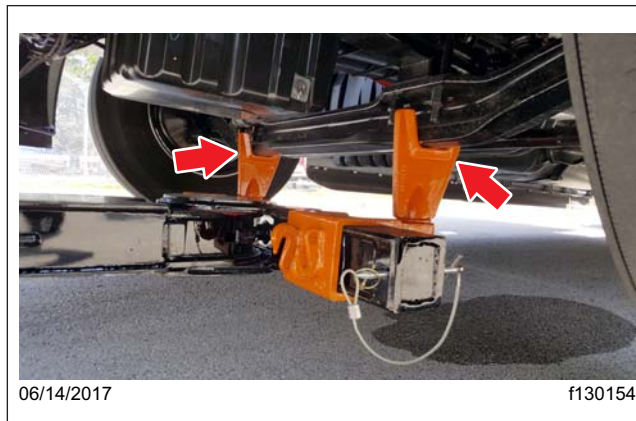
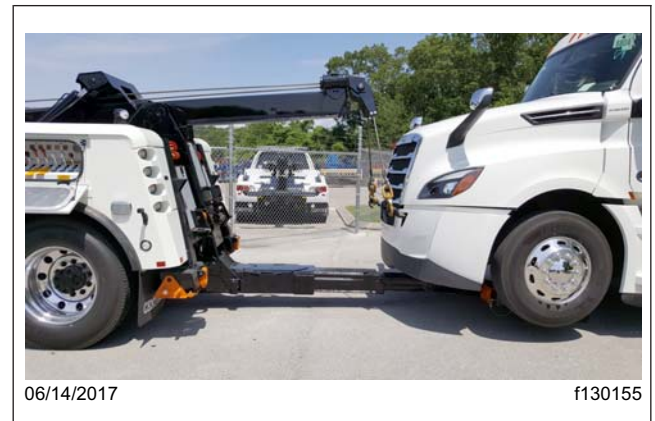

Fig. 9, Positioning the Stinger with Lift Adaptors Under the Axle
Fig. 10, Stinger with Lift Adaptors Under the Axle (tow truck shown)
- Extend the stinger and place the lift adaptors under the axle. Make certain the lift adaptors are under the front suspension springs between the U-bolts. See Fig. 9 and Fig. 10.